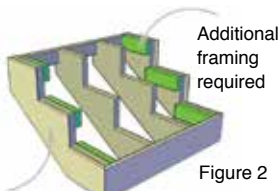

Figure 2
1. Mount the fascia on the stringers and first riser (fig. 2).